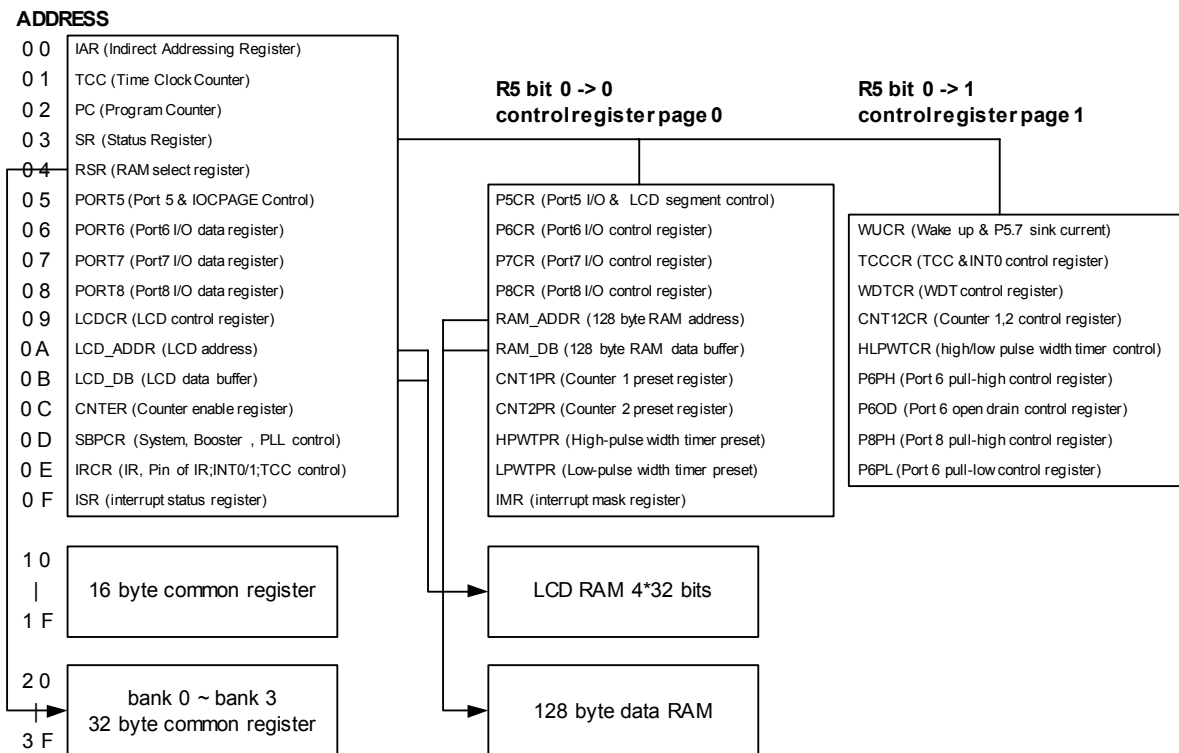

Fig. 4 Data Memory Configuration
**Bits 7 ~ 6 (RBS1 ~ RBS0)** determine which bank is activated among the 4 banks. See the configuration of the data memory in Fig.4. Use BANK instruction (e.g. BABK 1) to change bank.